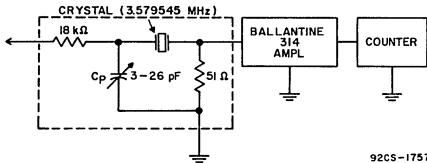

Fig. 6 - Crystal probe for frequency measurements.
1. APC ADJUST: With S2 in "OFF" position adjust the "APC ADJ." potentiometer to set oscillator frequency at 3.579545MHz ± 25 Hz. With S1 in position 1 measure frequency at terminal No. 2 output, using crystal probe shown in Fig. 6.